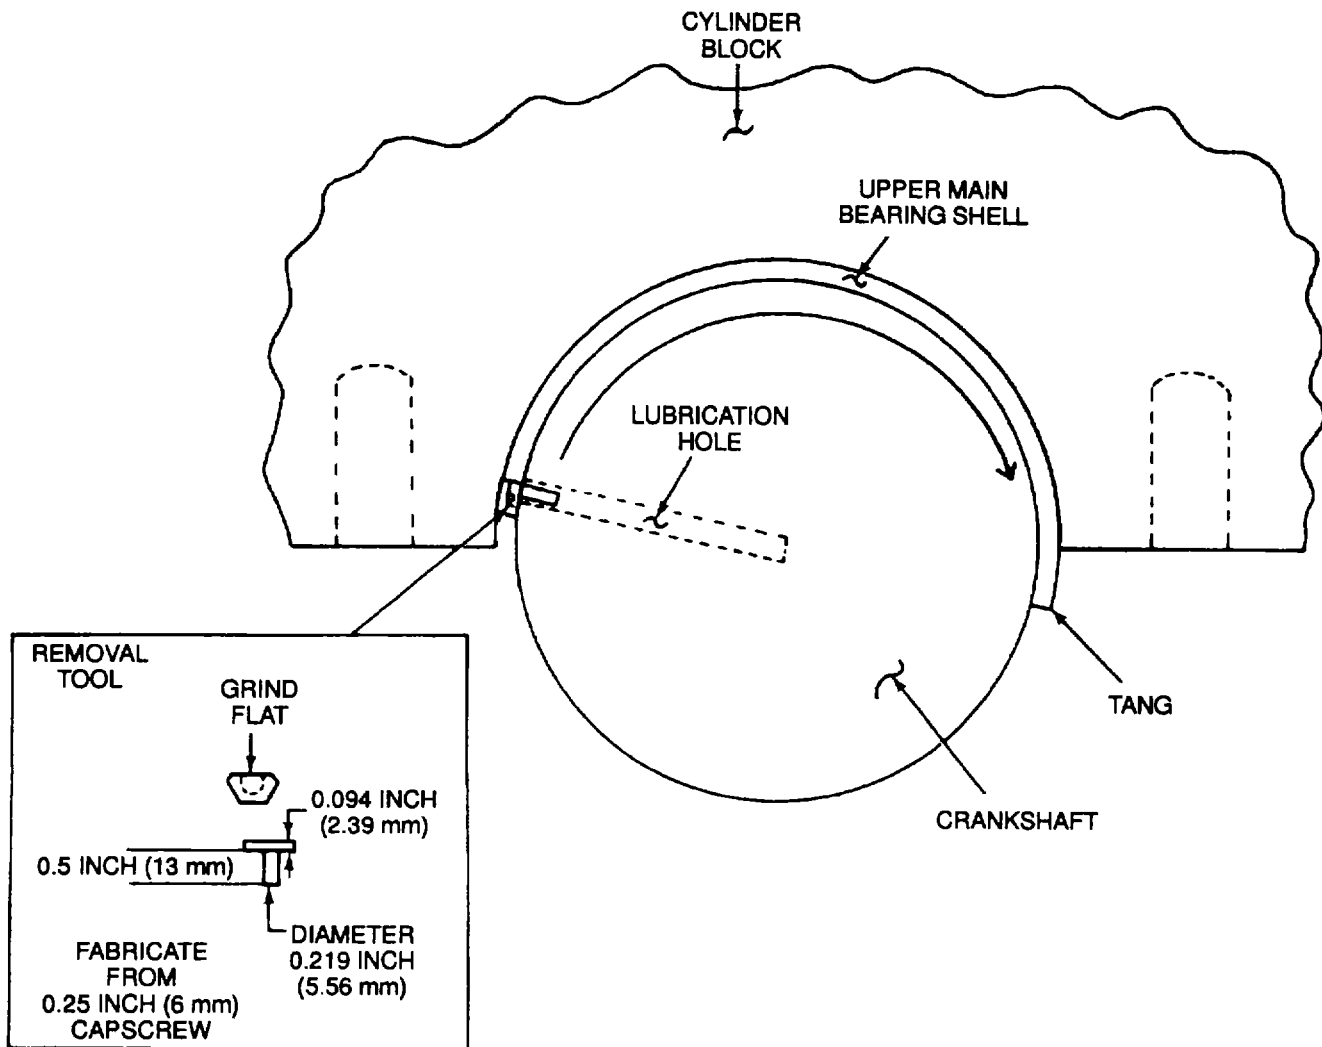

Figure 9-33. Removing Upper Main Bearing Shell with Fabricated Removal Tool
- (2) Remove the capscrews (16) and washers (17) securing the main bearing cap (18) to the cylinder block (58).
- (3) Using main bearing cap puller ST-1116 or a small pry bar, remove the main bearing cap (18).
- (4) Remove the lower main bearing shell (19 or 20) from the cap (18) and, if damaged, remove the dowel (21).
- (5) Fabricate a removal tool in accordance with Figure 9-33.
- (6) Install the removal tool in the lubrication hole in the crankshaft (32, Figure 9-24) and rotate the crankshaft so the flat of the removal tool contacts the edge of the bearing shell (22 or 23) opposite the tang on the bearing shell (Figure 9-33). Rotate the crankshaft to remove the bearing shell.
- (1) Lightly lubricate the crankshaft journal with a small amount of lubricating oil, MIL-L-2104, position the upper main bearing shell (22 or 23) against the crankshaft (32) with the tang of the bearing opposite the tang recess in the cylinder block (58).
- (2) Have an assistant slowly rotate the crankshaft (32) counterclockwise (when viewed from the front of engine) while maintaining upward, rotational pressure on the bearing shell (22 or 23).
- (3) Work the bearing shell (22 or 23) around the crankshaft (32) by hand while the crankshaft is being turned.
- (4) As the bearing shell (22 or 23) approaches its final position, make sure the tang is aligned with the tang slot in the cylinder block (58). If necessary, have the assistant rock the crankshaft back-and-forth while applying side pressure on the bearing shell to align the slot and tang.
- (5) If the bearing shell (22 or 23) cannot be completely installed using steps (9), (10), and (11), above, use the removal tool (Figure 9-33) to install the shell as follows:
- (b) Install the removal tool (Figure 9-33) in the crankshaft (32), and have the assistant rotate the crankshaft slowly while holding the installation tool in place. Be extremely careful that the tang and slot remain in alignment as the bearing shell is brought to its final position.
- (6) If removed, install the dowel (21) in the main bearing cap (18).